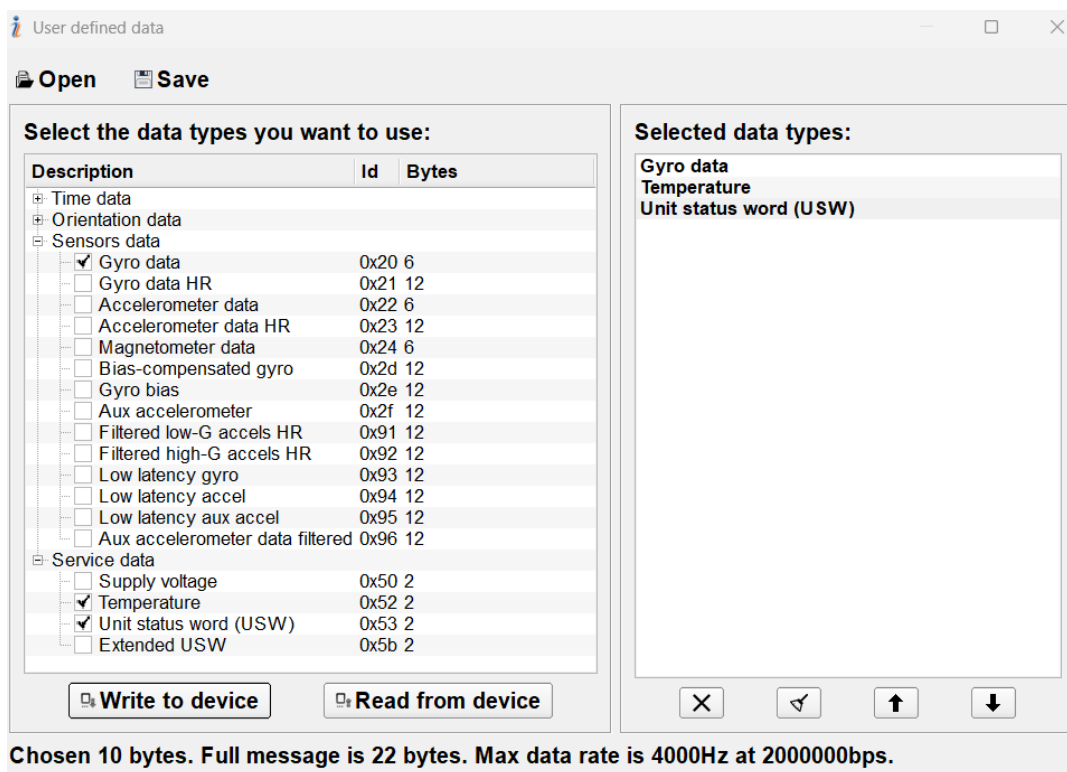

Fig. 3.3. Recommended User Defined Data
6. Once “User Defined Data” is selected, select the time data, orientation data, sensors data, and service data. For TAG-512, the only relevant fields are “Gyro data” and Gyro data HR” in the “Sensors data” field. Additionally, any data type in the “Service Data” field can be selected. The recommended selections are shown in Fig. 3.3 below.